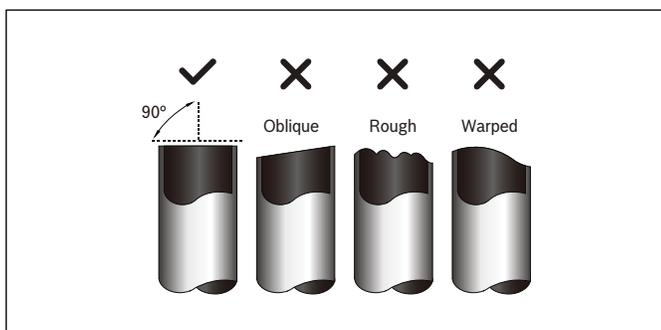

Figure 26
3. Make sure that the pipe is cut at a perfect 90° angle. Refer to Fig.26 for cut examples.